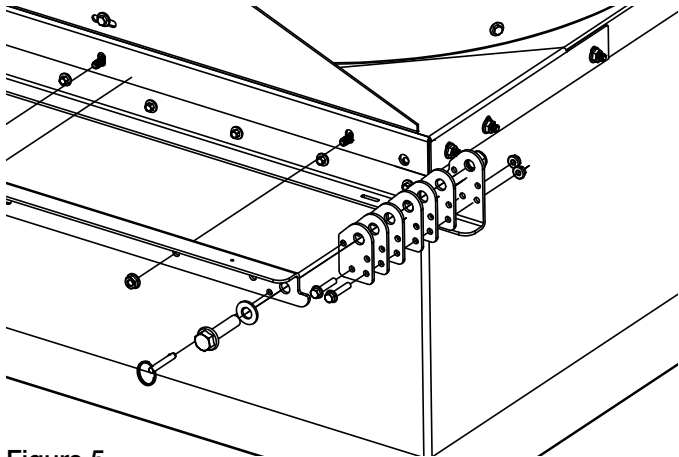

Figure 5
8. Insert the 1/2 in. - 13 x 2 in. bolt through a washer, the pivot hole of a top hinge bracket and its respective bottom hinge bracket's pivot hole. While pressing the lower bracket against the roof curb find how many bottom hinge spacers will be needed between the top hinge bracket and bottom hinge bracket. Refer to Figure 5.